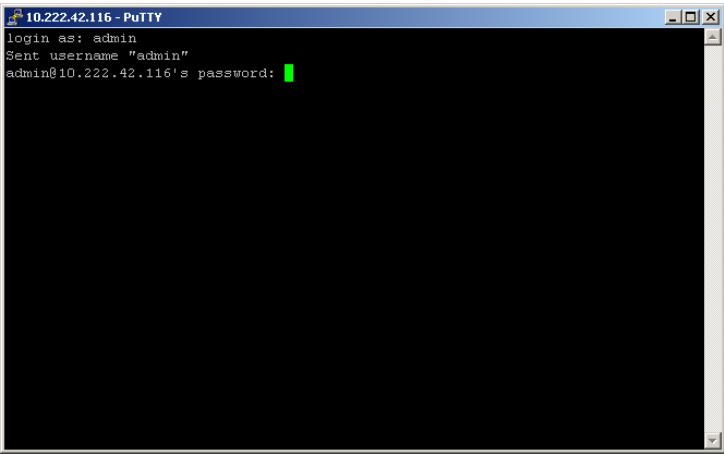

Figure 31. Username and Password Window
7. Log in with the *username* and *password*. The default username and password is admin (see Figure 31).